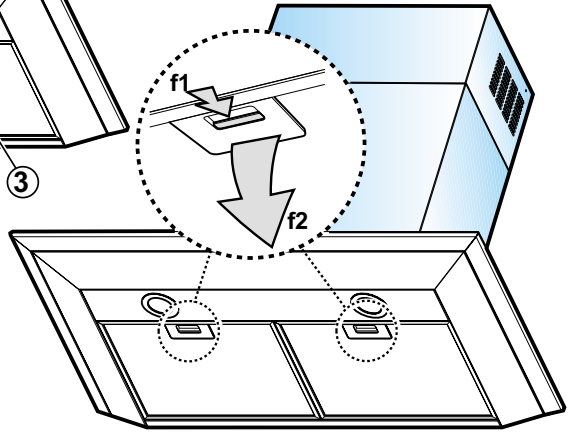

Fig. 2
Grease Filters (see Fig.2)
Carbon Filters (see Figs.2 and3)
- b. Remove the grease filters (Fig. 2).